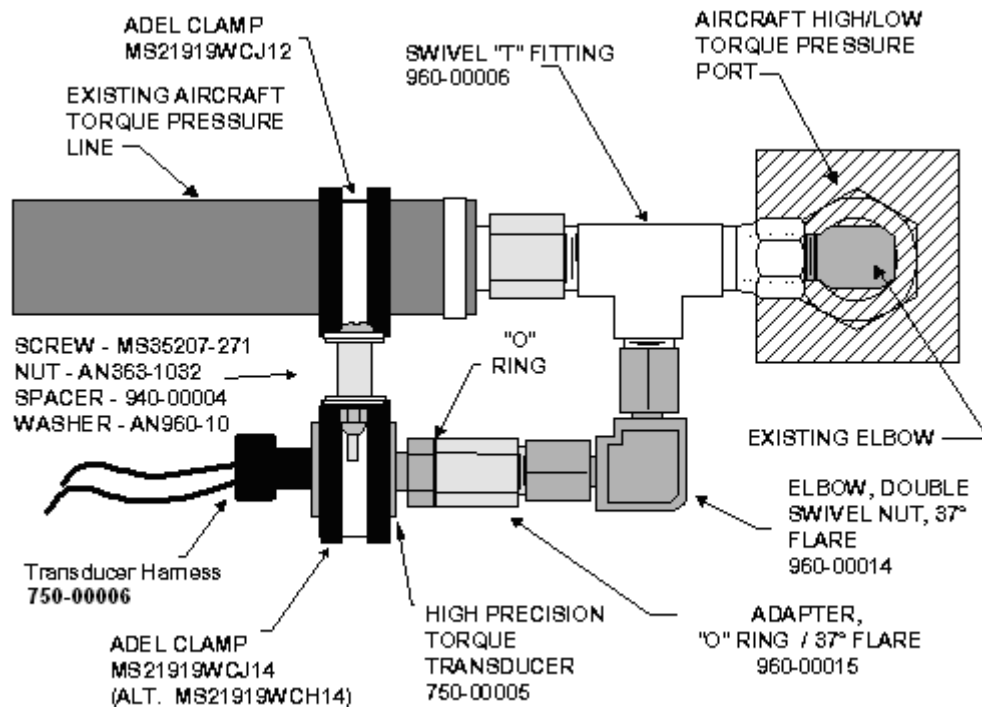

Figure C- 16: Torque Transducer Installation Configuration
The ADAS + obtains the engine torque level by using two (2) 0 – 150 PSIG transducers installed in the torque pressure lines. The torque transducer installation is referenced in illustration Figure C- 16.
- 020 Referring to Figure C- 16, remove the "T" swivel (960-00006) from the adapter fitting (960-00015).